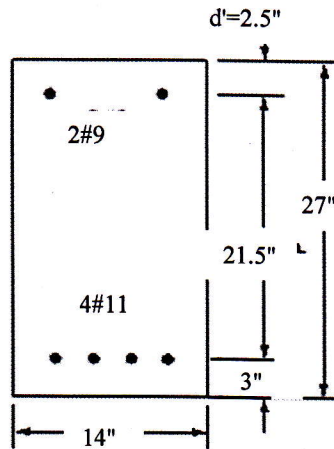

Figure 3
- (b) Discuss the behavior of Reinforced Concrete beam section in flexure under increasing load by drawing neat sketches for strain and stress distribution of uncracked, cracked and ultimate conditions. (4)
3. (a) What are the recommendations of ACI code regarding the minimum and maximum permissible reinforcement in beams? Explain the necessity for these. (3)
- (b) Determine the nominal and design positive moment capacity of the beam section shown in Figure 3 for which  $f'_c = 3$  ksi,  $f_y = 60$  ksi. Use the USD method. (7)